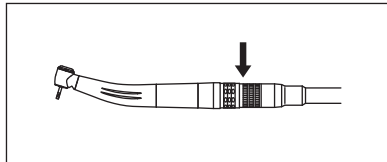

Fig. 9
- 3) Do not exceed the air pressure of 42.7psi (3.0bar). Air pressure readings must be checked at the coupling joint as shown in Fig. 9.